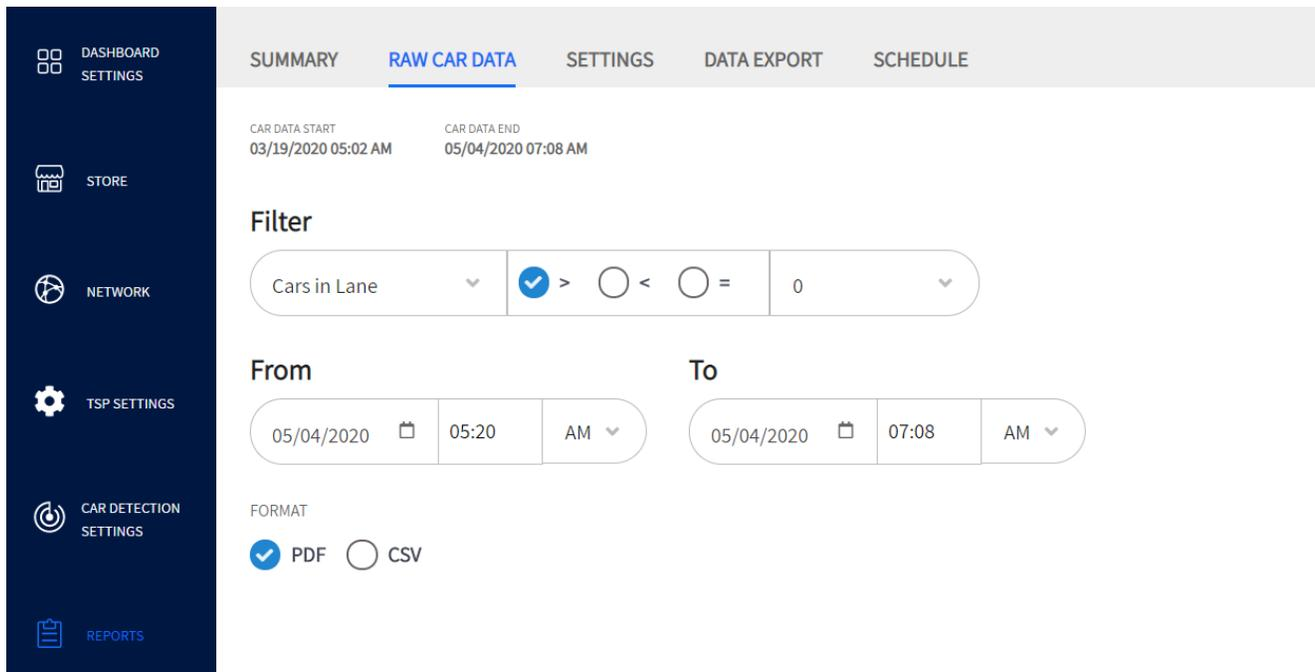

Fig. 8.2
**Example:** Fig. 8.2 shows an RCD (Raw Car Data) report for Cars in Lane greater than zero for the hours between 5:20 AM and 7:08 AM of May 4, 2020. PDF is the selected export format.